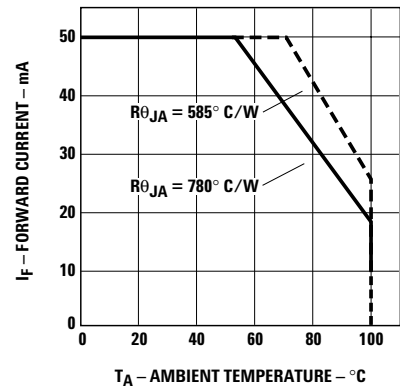

Figure 4. Maximum forward current vs. ambient temperature. Derating based on T_{JMAX} = 130°C.
- Derate linearly as shown in Figure 4.